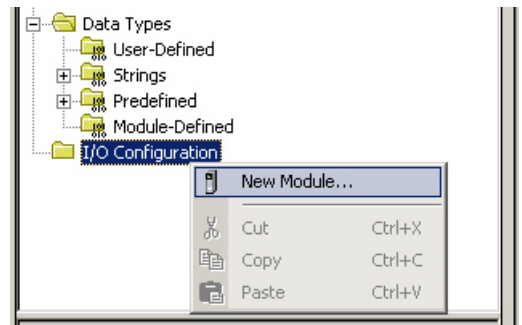

Figure 6.1 Defining a Bridge Module
- 1) Insert a bridge module into the I/O Configuration tree. As shown in figure 6.1 on the right, right click on the I/O Configuration folder and select "New Module..." in the pop-up menu.